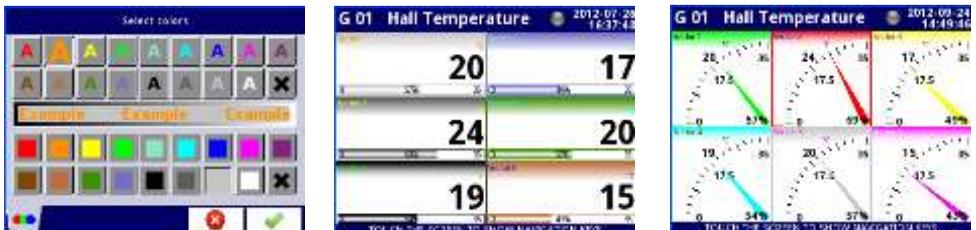

Fig. 7.140. Style color select screen and examples of views with changed styles
- **Style** – defines the color which will be used to draw the logical channel selected in this **Slot**. The user can specify the font color in the channel (except value color) and the drawing color of all elements connected with channel visualisation (see Fig. 7.140). By using black X buttons the user can return to default settings.